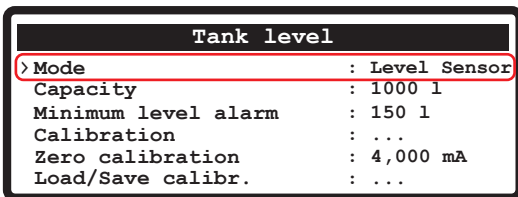

Fig. 27
**6** Enter the **Tank level** menu, activate the **Level sensor mode**(Fig. 27) and select the **Calibration** item.